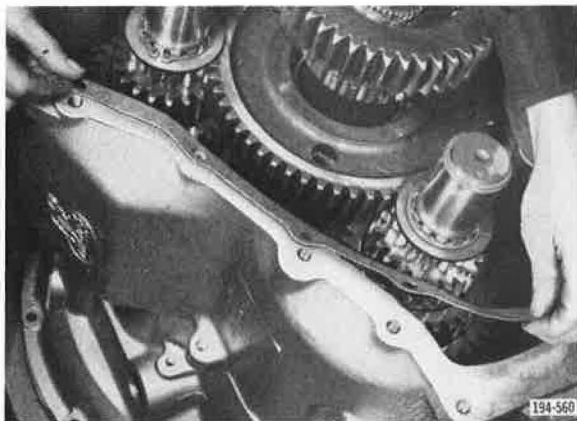

Figure 386. Installing Gasket
1. Install a new main case to rear case gasket. See Figure 386.